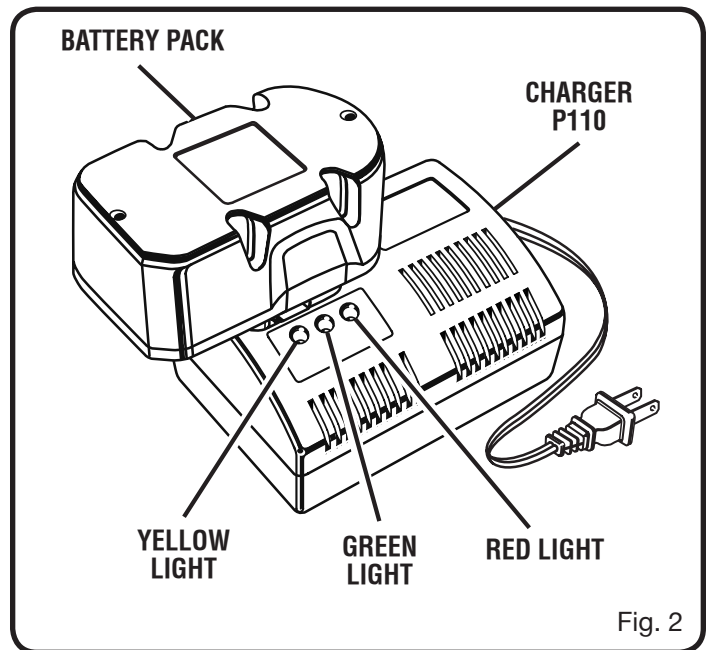

Fig. 2
- Place the battery pack in the charger aligning raised rib on the battery pack with the groove in the charger. *See Figure 2.*